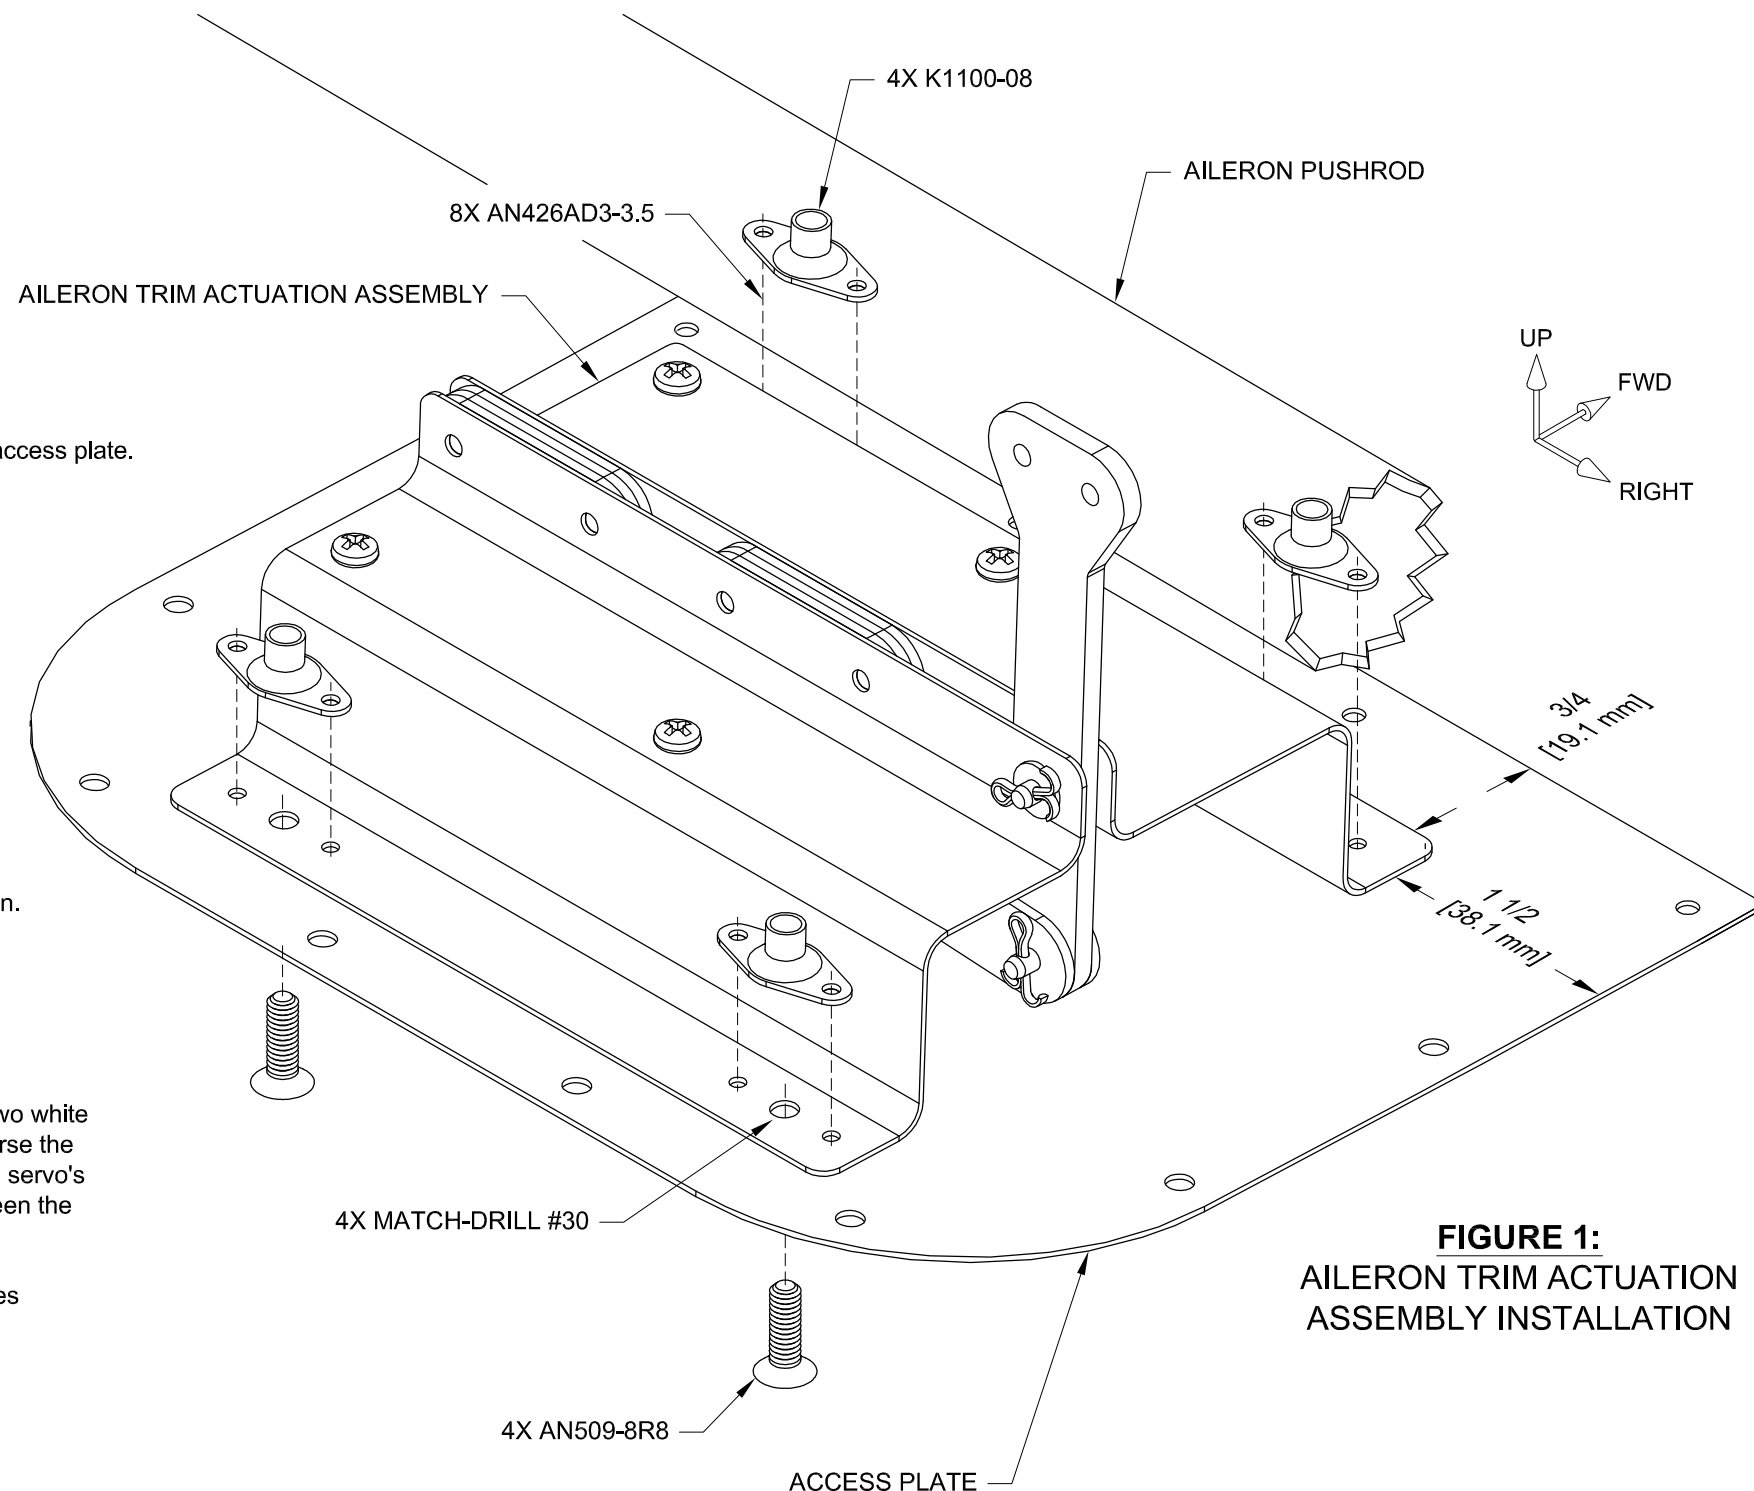

FIGURE 1:
Step 1: Separate the W-1017B-L and W-1017B-R Aileron Trim Spring Brackets as shown in Figure 1.